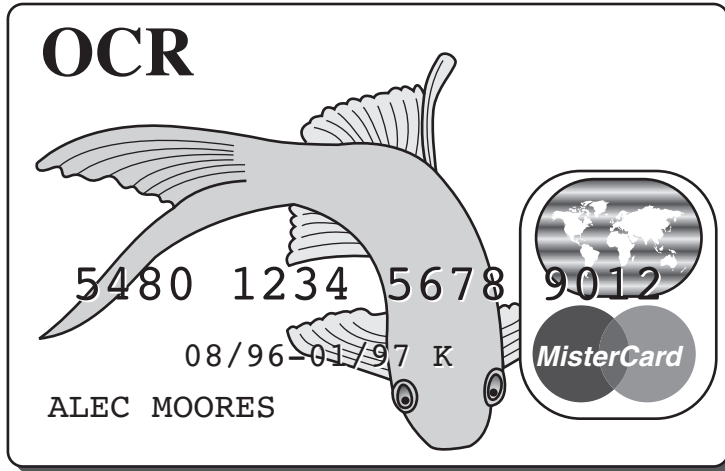

Fig. 5
Fig. 5 shows a credit card which will be printed in colour.
(a) Give **four** design requirements for the printed credit card shown in Fig. 5. Justify each requirement.
- (b) Describe **two** examples where ergonomics has influenced the design of the credit card shown in Fig. 5.